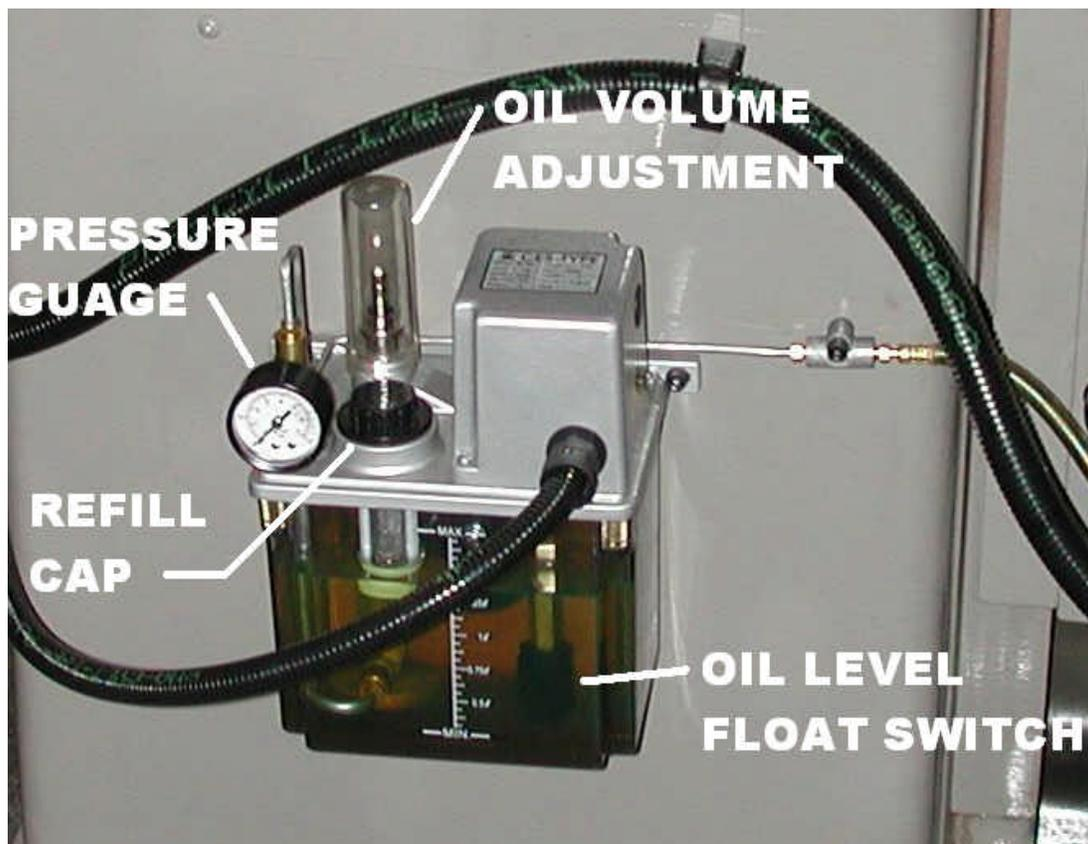

Figure 4-3
- Check and fill auto way lube tank. (See figure 4-3)
- Check and fill auto way lube tanks. (See figure 4-3)
A lubricator located on the left side of the column automatically lubricates the X and Y-axis ball screw nuts as well as all slide way surfaces at timed intervals. (Figure 4-3) The pump is factory set as to the timed intervals but you can adjust the volume of oil delivered at each cycle.